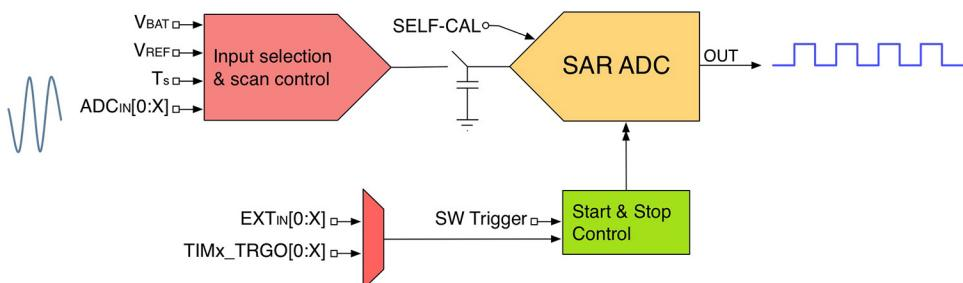
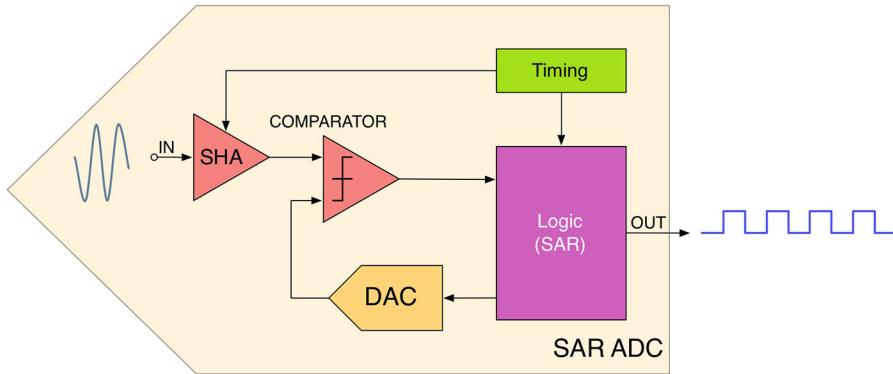

Figure 1: The simplified structure of an ADC
Figure 2: The internal structure of a SAR ADC
Figure 1 schematizes the structure of the ADC². An *input selection and scan control unit* performs
²Figure 1 is a really simplified representation of the ADC. Since the ADC implementation can differ a lot among the several STM32 families, here we are going to consider a simplified view that clearly describes how the ADC unit is designed.
Figure 1 also shows another important part of the ADC: the *start and stop control* unit. Its role is to control the A/D conversion process, and it can be triggered by software or by a variable number of input sources. Moreover, it is internally connected to the TRGO line of some timers so that time-driven conversions can be automatically performed in DMA mode. We will analyze this important mode of the ADC peripheral later.
Figure 2 shows the main blocks forming the SAR ADC unit shown in **Figure 1**. The input signal goes through the SHA unit. As you can see in **Figure 1**, a switch and a capacitor are in series with the ADC input. That part represents the *Sample-and-Hold* (SHA) unit shown in **Figure 2**, which is a feature available in all ADCs. This unit plays the important role to keep the input signal constant during the conversion cycle. Thanks to an internal timing unit, which is regulated by a configurable clock as we will see later, the SAR constantly connects/disconnects the input source by closing/opening the “switch” in **Figure 1**. To keep the voltage level of the input constant, the SHA is implemented with a network of capacitors: this ensure that source signal is kept at a certain level during the A/D conversion, which is a procedure that requires a given amount of time, depending on the conversion frequency chosen.
The charging of the internal capacitor network (that we indicate with C_{ADC}) is controlled by the switch in **Figure 1** having a resistance equal to R_{ADC} .
- `ClockPrescaler`: defines the speed of the clock (ADCCLK) for the analog circuitry part of ADC. In the previous paragraph we have seen that the ADC has an internal timing unit that controls the switching frequency of the input switch (see **Figure 2**). The ADCCLK establishes the speed of this timing unit and it impacts on the number of samples per seconds, because it defines the amount of time used by each conversion cycle. This clock is generated from